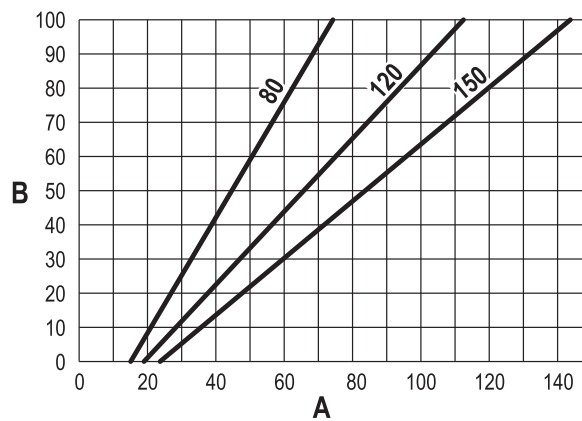

fig. 62
- Press the **contextual buttons 1 and 2** to increase or decrease the heating capacity (minimum = 00 - Maximum = 100). See the diagram “Heating Capacity Adjustment” (fig. 62).